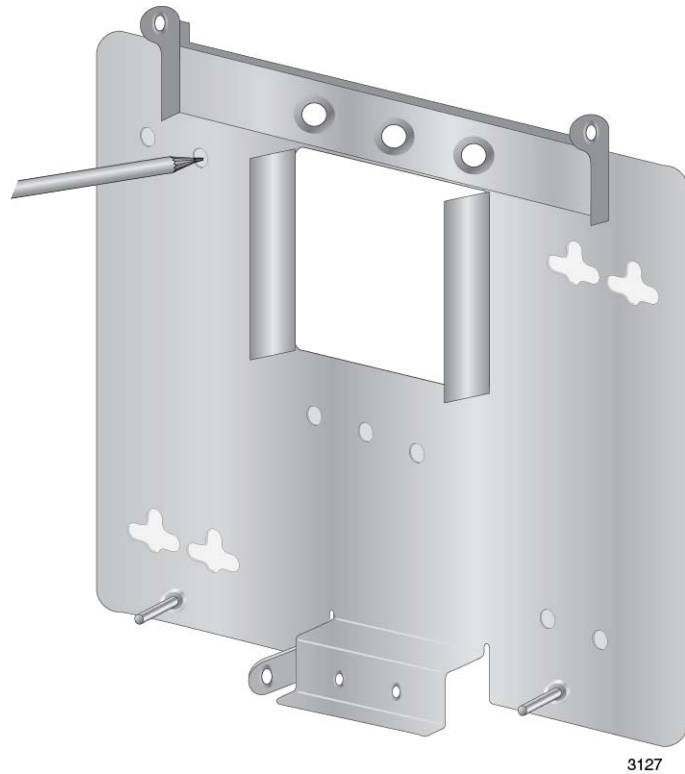

Figure 17. Marking the Locations of the Bottom Panel Holes on the Wall or Ceiling
1. To install wall anchors, hold the bottom panel at the selected wall or ceiling location and with a pencil or pen mark the locations of the four screw holes that are to be used to secure the panel. Refer to Figure 17 on page 41.